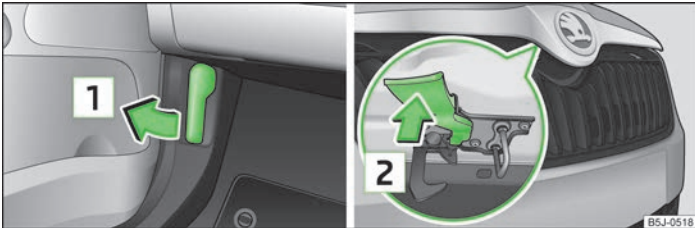

Fig. 113 Bonnet/radiator grille release lever: Release lever
➤ Pull the release lever under the dash panel **1** » Fig. 113.
- Press the release lever in the direction of the arrow **2** » Fig. 113 and the bonnet is unlocked.